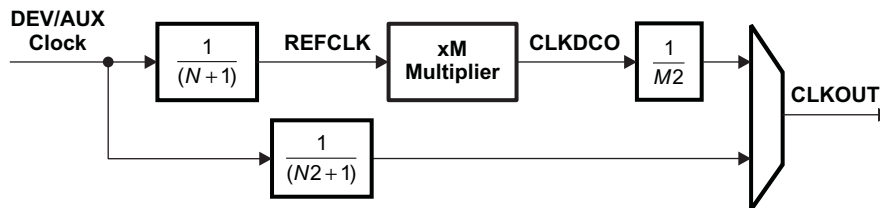
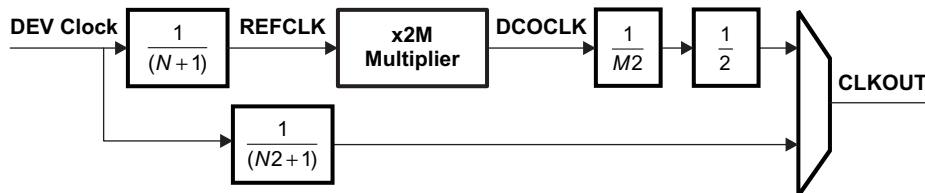

Figure 7-17. Top-Level PLL Simplified Block Diagram
Figure 7-18. PLL_ARM Simplified Block Diagram
The device contains 10 top-level PLLs, and embedded PLLs (within the ARM Cortex-A8, PCIE, SATA, and CSI) that provide clocks to different parts of the system. Figure 7-17 and Figure 7-18 show simplified block diagrams of the Top-Level PLL and PLL_ARM. In addition, see the System Clocking Overview (Figure 7-7) for a high-level view of the device clock architecture including the PLL reference clock sources and connections.
(1) This parameter describes the limits on the programmable multiplier value M. The multiplication factor for the PLL_ARM is equal to 2 * M (also see Figure 7-18).
(2) The PLL Multiplier supports fractional values (up to 18-bits of fraction) except when the PLL Multiplier is < 20 OR > 2045.